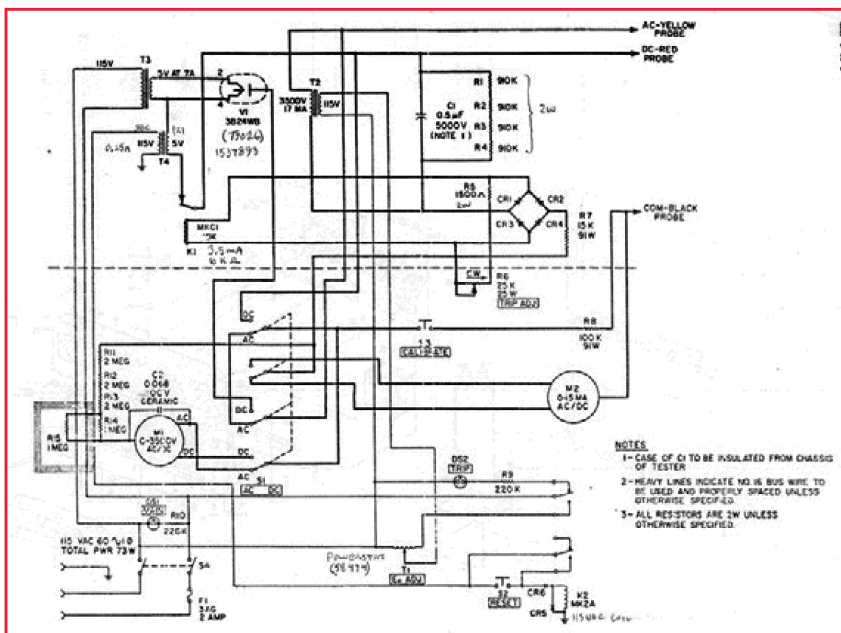

Figure 2.
**Figure 2** shows the schematic for the 60B4. When power switch S4 is closed, AC line power is connected to the primary of transformer T3, which supplies 5 VAC filament power to vacuum tube V1. V1 is a 3B24WB half-wave rectifier rated for 20 kV PIV and 60 mA average DC current. It supplies high-voltage DC for the DC test mode.